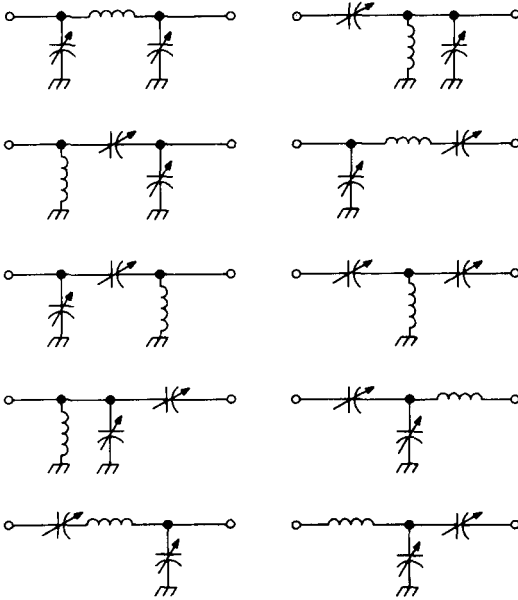
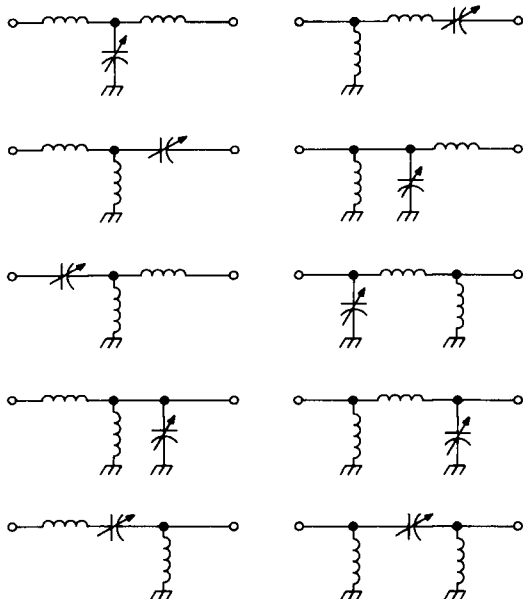

fig. 1. Matching networks that use one inductor and two capacitors.
fig. 3. Matching networks that use one capacitor and two inductors.
Fig. 1 shows circuits using a single inductor and two capacitors. Notice that some are simply others "turned around." They should not be disregarded, however, because
An antenna coupler can be built with sufficient switching capabilities to use all ten of the possible combinations shown in fig. 1. All circuits except one can be constructed with one side of one of the variable capacitors connected to ground. This greatly simplifies construction since only one "floating" variable capacitor is required.
wide range of impedance-matching capabilities can be made using the circuits of **fig. 3** if each inductor has a maximum value of 10-20  $\mu\text{H}$  and the variable capacitor has a range of 350 pF or more. This should permit matching a 16- to 20-foot or rod wire on 80 meters without difficulty. The cost of such a coupler can be fairly high if new commercial components are used. If you use surplus components, such as the capacitors and
**fig. 2.** Nine of the ten circuits shown in **fig. 1** can be formed with this circuit (the tee network with the two floating capacitors is the exception). Capacitors  $C_1$  and  $C_2$  are 250-pF air variables (Hammarlund MC-250-M); the inductor is a B&W 3900, 5 to 6 inches long, tapped with a spring clip.
Matching circuits using two inductors and one variable or fixed capacitor are shown in **fig. 3**. These are the equivalent of the single-inductor, two-capacitor circuits of **fig. 1**, but they do have some different features.
With extremely short antennas (one-eighth wavelength or less), some of the **fig. 3** circuits will give superior coupling efficiency—provided the inductors have low ohmic losses. This is very important, as discussed below.
When using a coupler of the type in fig. 2 with random-length antenna wires (30 feet or more), note that several coupler forms on the same band might produce a minimum swr. In each case all coupler component values should be adjusted to achieve a minimum swr when the coupler is set for a specific circuit form. The same situation will often occur when using the coupler forms shown in fig. 3.